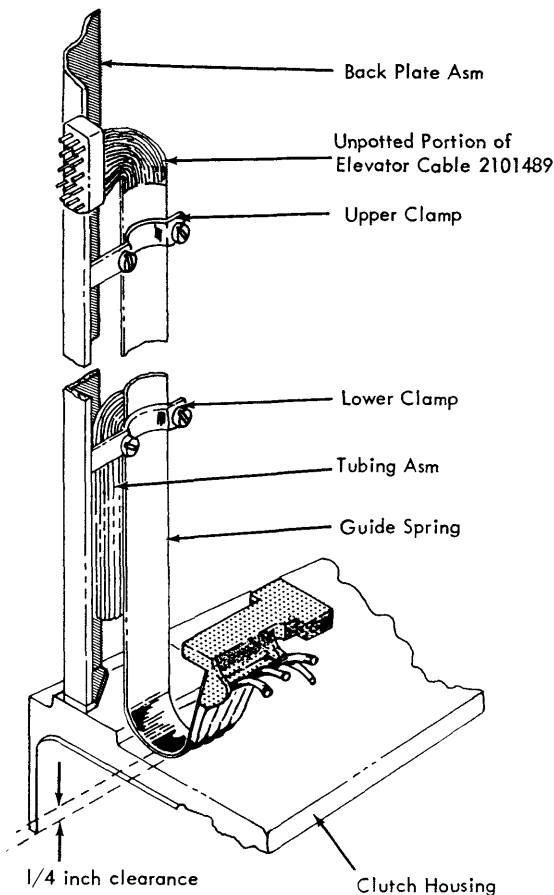

Figure 67. Elevator Cable
- 1. Install elevator cable (See Figure 67).